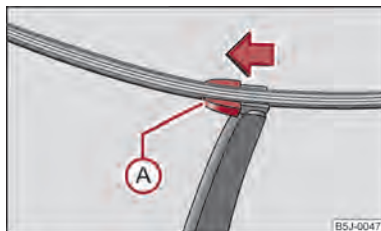

Fig. 34 Wiper blade for the rear window
- Fold windscreen wiper arm out from the windscreen and position the wiper blade at right angles to the wiper arm ⇒ fig. 34.
- With the other hand unlock the locking button (A) in the direction of arrow and remove the wiper blade.